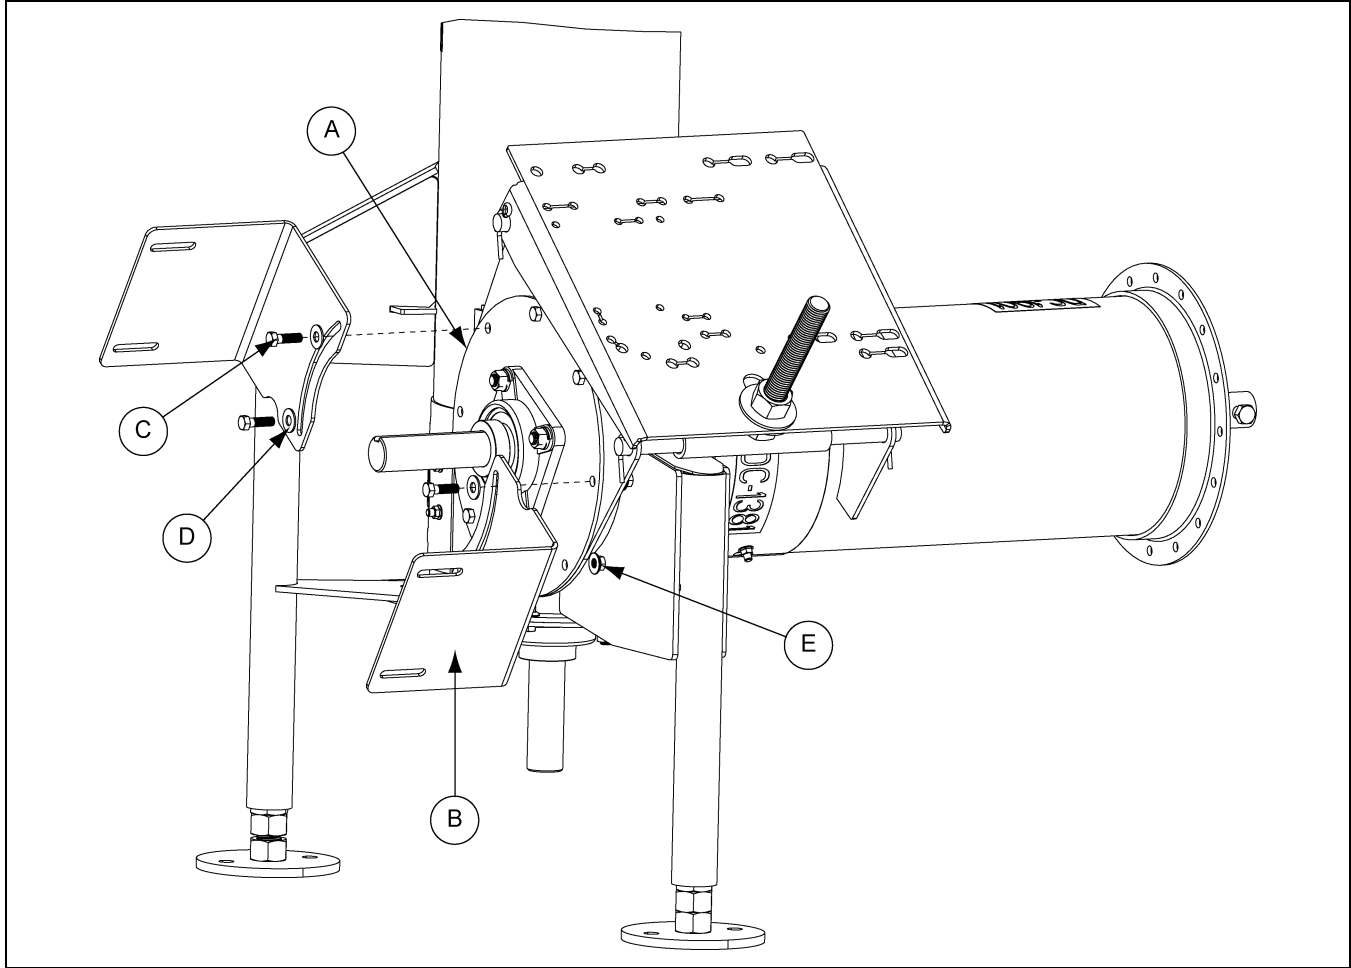
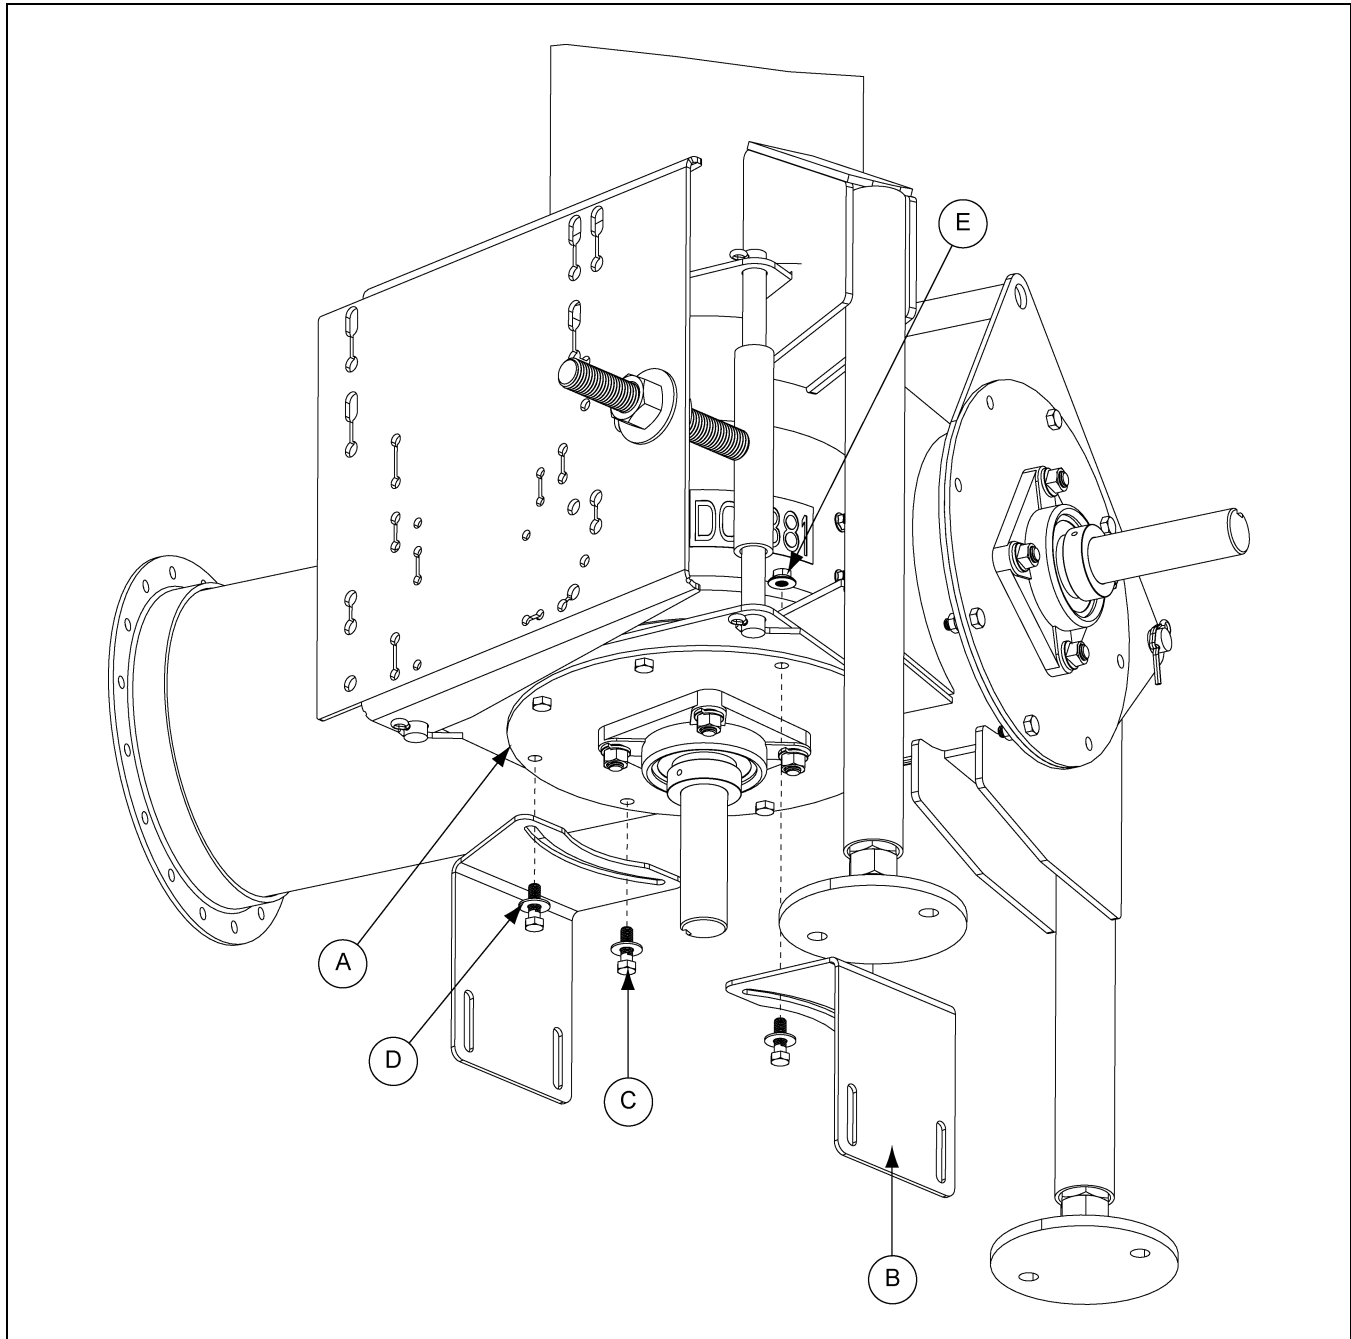

Figure 3L
Figure 3M
- A. Align the slots on the *belt guard mounting brackets (B)* with the open holes on the *bearing plate (A)*.
- B. Secure each *bracket* with the appropriate hex bolts (C), flat washers (D) and serrated flange nuts (E).
- (See *Figure 3L below* and *Figure 3M on Page 25.*)